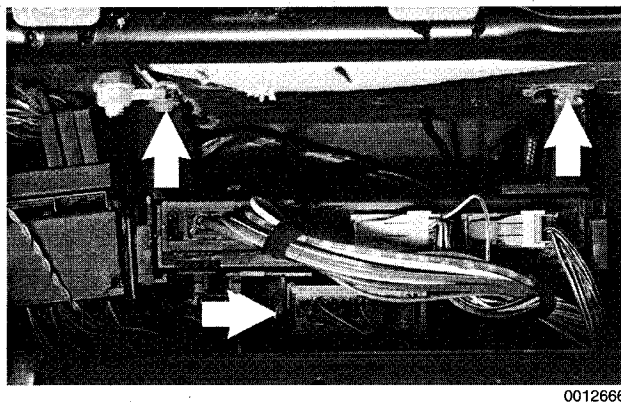

Fig. 52. Control module carrier retaining screws (arrows).
3. Remove right side control module carrier screws and tilt carrier down. See Fig. 52.